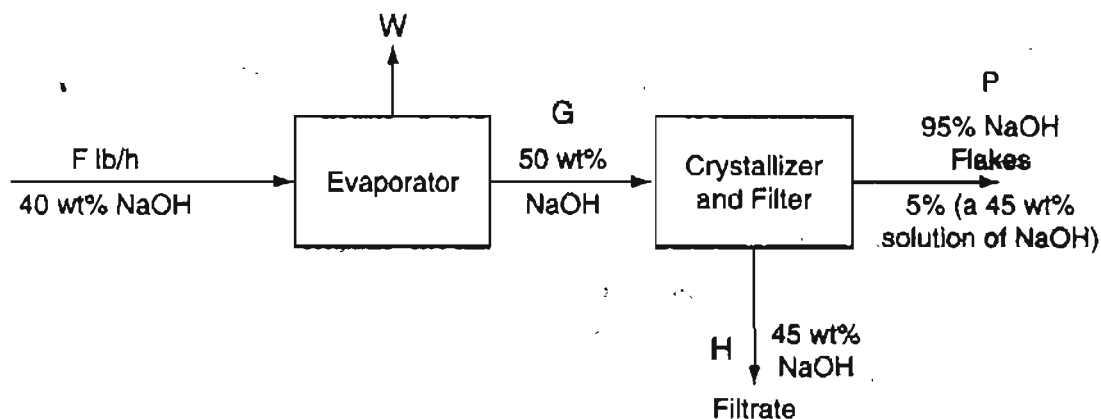

Figure E12.1b
- b. Now, suppose recycle from the crystallizer does not occur, but the production and composition of P remains the same. Then the output of the crystallizer is just P , as indicated in Figure E12.1b. How should you proceed? Do you recognize that the problem is analogous to the ones that you read about in Chapter 11?